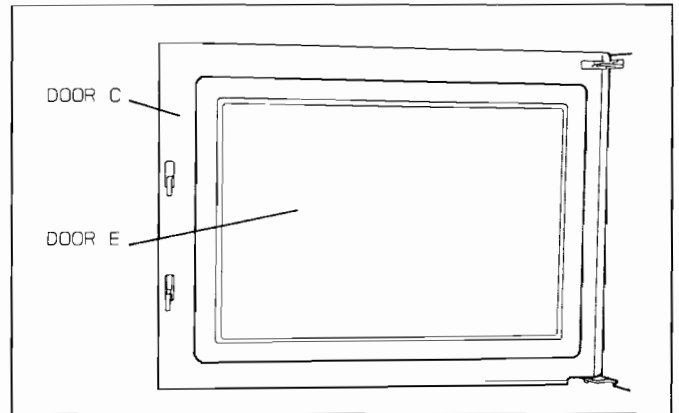

Fig. 26
- (C) Remove 3 screws holding side and bottom frames of door A. (Fig. 26)
- (D) Separate the door A from the door E by freeing 6 catch hooks on the door A using a flat screwdriver. (Fig. 26)